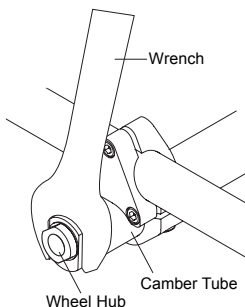

Figure 79
12. If the measurement in step 9 is less than the measurement in step 8, rotate the camber tube using the 7/8" Open End Wrench rearward to toe-out the rear wheels. If the measurement in step 9 is greater than the measurement in step 8, rotate the camber tube using the 7/8" Open End Wrench forward to toe-in the rear wheels. Continue adjusting the camber tube until these two measurements are equal. See Figure 79.